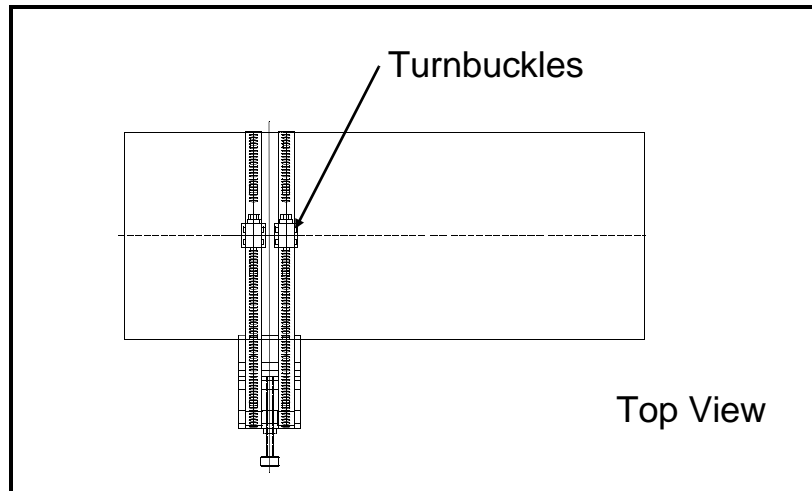

Figure 1-20: Positioning Turnbuckles
8. Center one of the blocks over one of the crossmarks on the pipe. Align the block so that the pressure bolt is over the center of the crossmark. Secure the block by wrapping two straps around the block and pipe and tightening them. Make sure the turnbuckles are at least 1/2 pipe diameter away from the block, as shown in Figure 1-20 below.